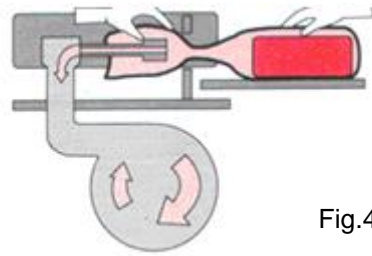

Fig.4
- Place the bag containing the product on the special tray of the machine, and put the open part of the bag on the nozzle (Fig. 4).